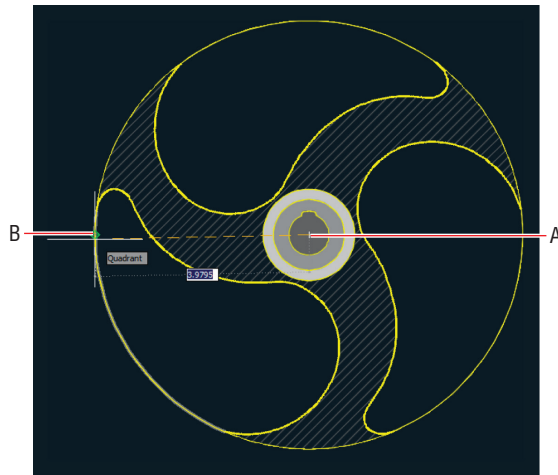

FIGURE 8.8 Drawing a circle
2. Shift+right-click and choose Node from the context menu. Click point A, shown in Figure 8.8, as the center point. Type QUA (for Quadrant) and press Enter. Click point B, also shown in Figure 8.8, to set the inner circle's radius. The CIRCLE command ends.